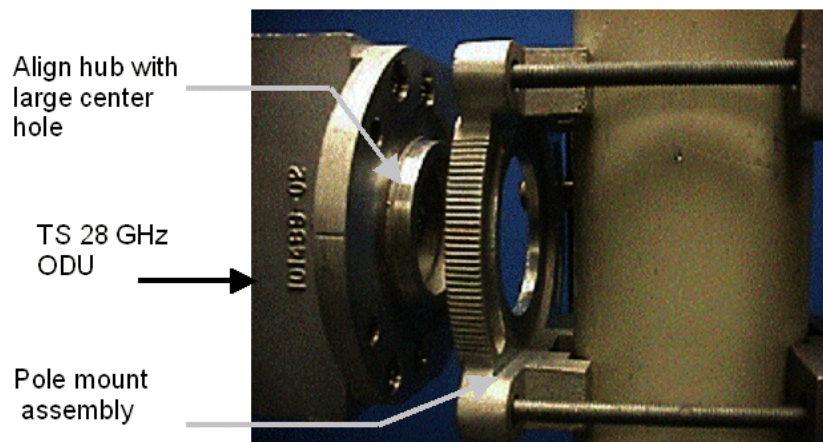

Figure 9-7: Aligning the Hub
1. Align the large diameter hub on the elevation adjustment plate to the pole mount plate (see Figure 9-7).